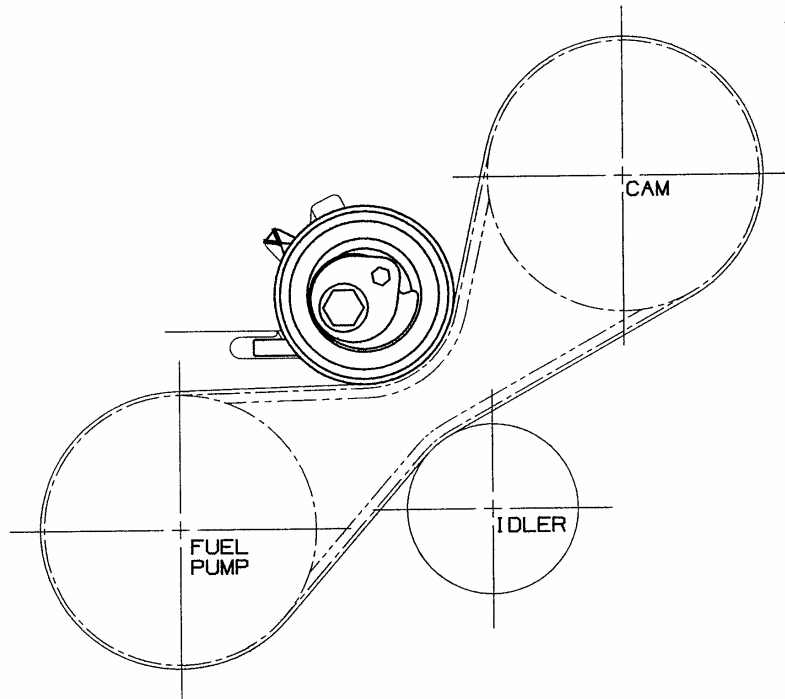

Figure 3: Belt Layout for 979278/979279 (VW 2.5L TDI, 5 Cyl.)
7. Install the timing belt on the injector pump sprocket. Then put the belt around the cam sprocket and install the sprocket on the cam. Leave the bolt hand tight so the sprocket can still rotate freely. A full timing drive routing can be seen in Figure 3.